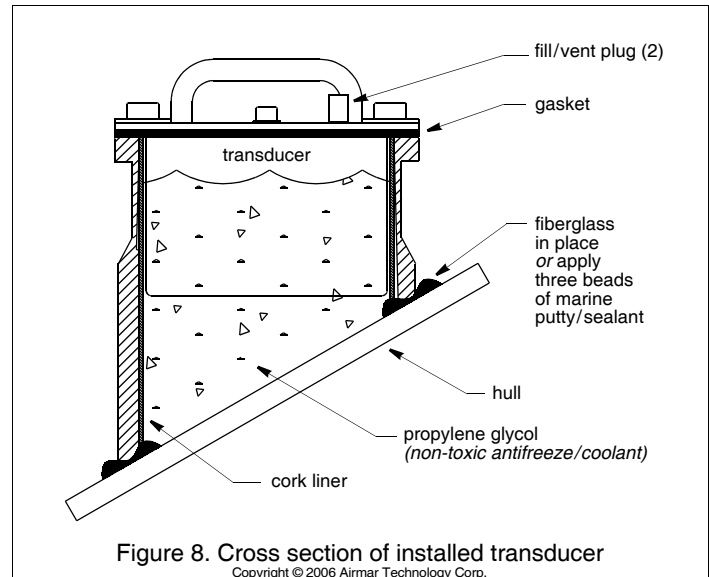

Figure 8. Cross section of installed transducer
3. Use an approved bonding material (see Tools & Materials on page 1). Glass the tank to the hull with fiberglass resin, using standard fiberglass technique. Alternatively, apply a generous bead of marine putty/sealant to the bottom edge of the tank following the manufacturer's instructions (see Figure 8). Press the tank firmly in place. Apply a second bead around the inside of the tank. And apply a third bead around the outside of the tank.
1. After the bonding material has cured, insert the cork liner into the lower section of the tank (see Figure 8). Butt the edges along the center of the tallest side. Note, there may be a gap, but this will not affect performance.